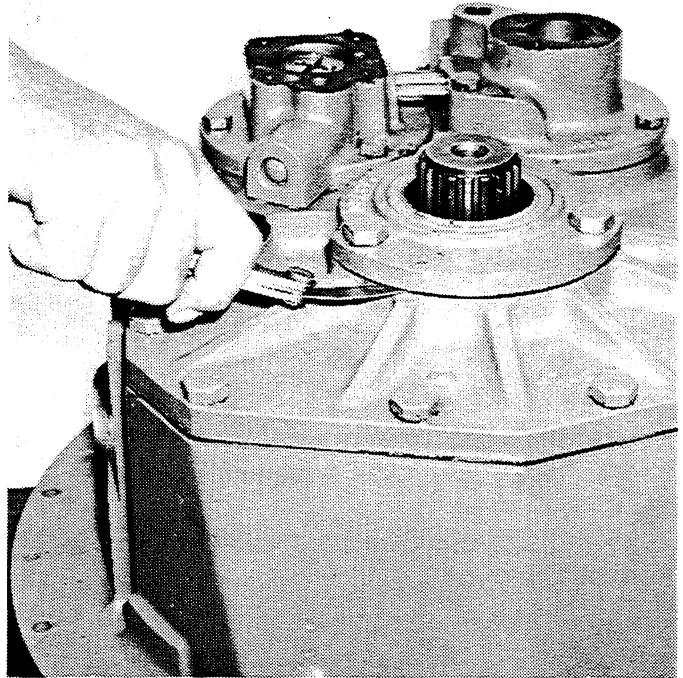

Figure 9-1. Measuring Shim Space Between Output Bearing Retainer and Rear Cover.
2. Apply forward pressure on the output shaft (19) and rotate the shaft several revolutions in each direction.
3. Tighten capscrews (24) finger tight again and then measure with a taper gauge the space between bearing retainer (23) and rear cover (Figure 12-1, 14). See Figure 9-1. Make up a shim pack (Figure 12-2, 22) equal to the measured space plus 0.005 inch.